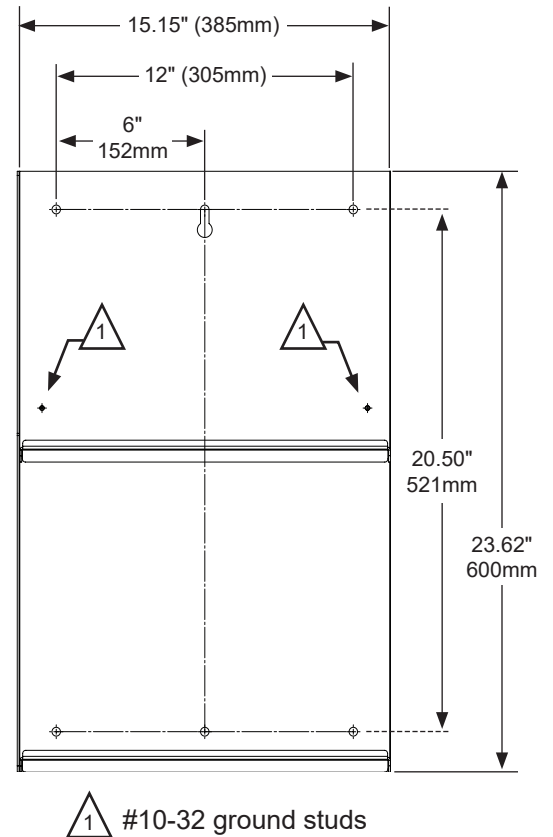
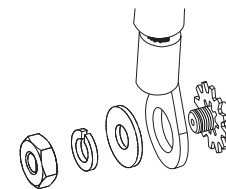

Fig. 7-4, Wall-Mount Rack Mounting Hole Layout
Fig. 7-5, Ground Wire Stack Up
1. See Fig. 7-4 for the dimensions of the shelf. Select a location that allows sufficient clearance on the top, bottom and sides for cabling and ventilation required for the installation.
4. Verify the power supply is connected to the rack grounding connection. The power supply connects to a ground stud  in Fig. 7-4. Follow the proper stack-up as shown in Fig. 7-5 to attach the supplied #10-32 nut, lock washer, flat washer, and supplied ground wire.
5. Verify the rack is connected to ground via either of the #10-32 ground studs  in Fig. 7-4, and a user-supplied ground wire. Follow the proper stack-up as shown in Fig. 7-5 to attach the supplied #10-32 nut, lock washer, flat washer, and customer supplied ground wire. Refer to applicable codes to determine additional grounding requirements.